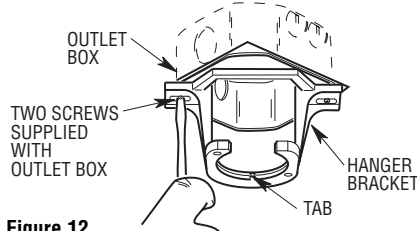
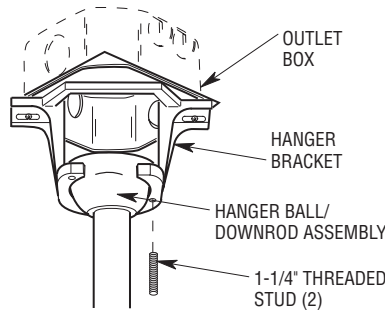

Figure 12
Figure 13
- 1. Securely attach the hanger bracket to the outlet box using the two screws supplied with the outlet box (Figure 12).
- 2. Carefully lift the fan and seat the hanger ball/downrod assembly on the hanger bracket that was just attached to the outlet box (Figure 12). Be sure the groove in the ball is lined up with the tab on the hanger bracket (Figure 13).
- 3. Screw the two 1-1/4" threaded studs (supplied) into the tapped holes in the hanger bracket (Figure 13).